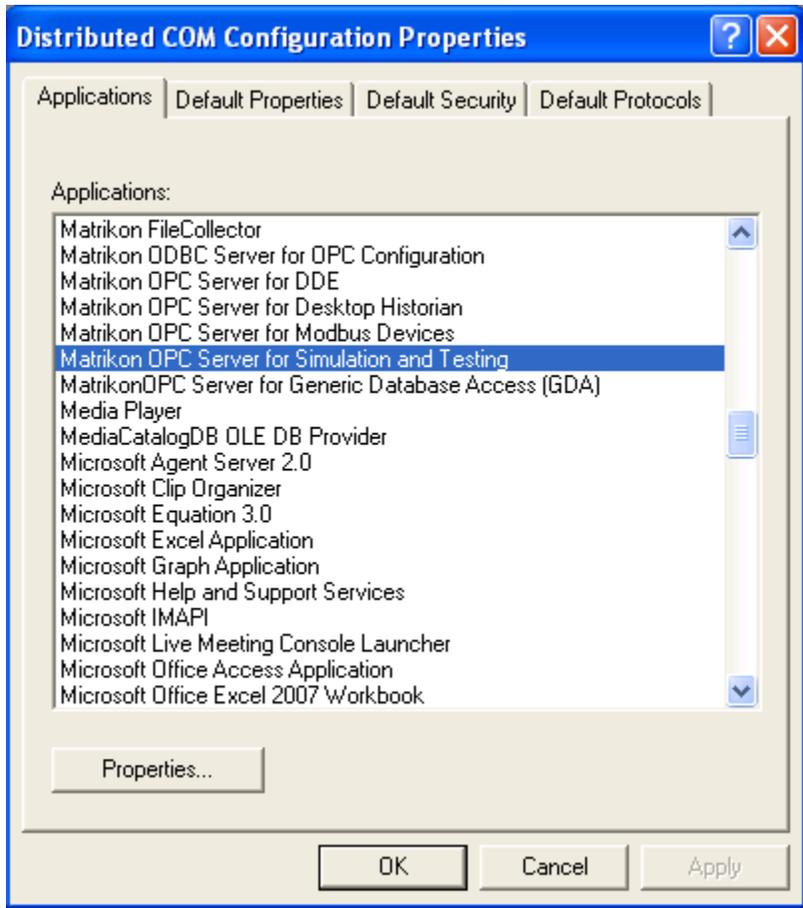

Figure 40 - Distributed COM Configuration Properties Window
3. The **Distributed COM Configuration Properties** window (Figure 40) appears.